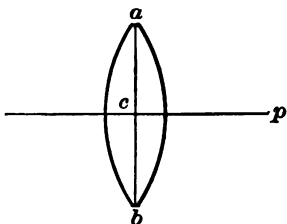

FIG. 161
**226. Names of Parts.** — Fig. 161 shows the cross section of a biconvex lens. The distance *ab* is the *diameter* of the lens; the point *c* is the *optical center*. The line *pc*, perpendicular to *ab* at the optical center, is called the *principal axis*; any other straight line passing through the center *c* is called a *secondary axis*.